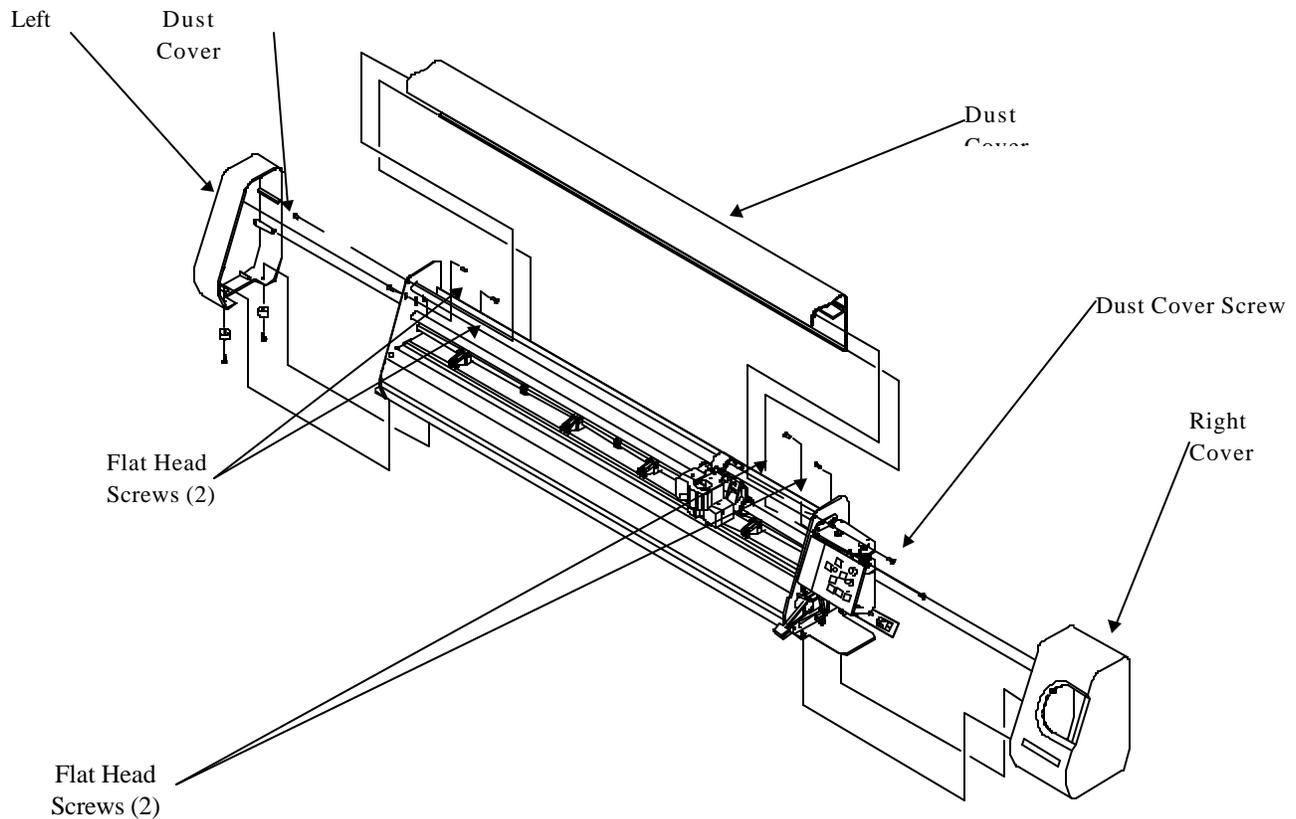

Figure 5-4. Removing the End Covers and the Dust Cover.
3. Remove the two black flat head screws that hold the right cover on the sign cutter then remove the right cover. See figure 5-4 below.
4. Remove the two black flat head screws that hold the left cover on the sign cutter then remove the left cover. See figure 5-4 below.
5. Use a screw driver to remove the four dust cover screws, two from each end of the sign cutter. Make sure to only remove the four dust cover screws (refer to figures 5-4 through 5-6).